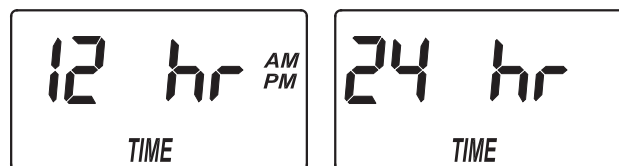

FIG. 26
1. Press and hold the PROGRAM button until the screen in Figure 22 is displayed. Once in this display, press the PROGRAM button three times and one of the two displays in Figure 26 is shown.